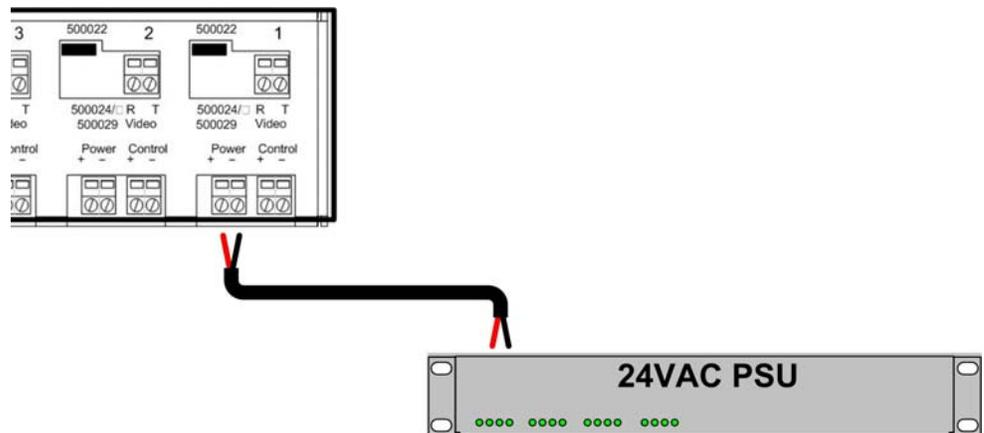

Figure 16: Remote power connection, Model 500131
9. If remote power is being transmitted to the camera, verify that the distance between the camera and the hub is within MuxLab specifications. Please consult the distance charts at the back of the installation guide. When the port switch is set to Pass-Thru Mode (500022), two (2) twisted pairs are used for remote power. When the port switch is set to Power-Thru Mode (500024/500029), three (3) twisted pairs are used for remote power thus supporting greater distance.
10. Connect two (2) wires between the power terminals of the hub to the remote low voltage power supply (fig 16). **It is recommended to use a Class II power supply with fuse protection on each output port.**